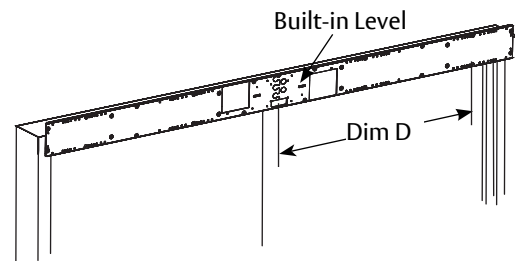

Figure 5
4. Interlock right backplate (3 “fingers”) from Box 2 with left backplate. (Figure 5)
5. Use level on right backplate to ensure proper alignment. (Figure 5)
6. Using backplate as template, mark conduit slot and Dim D mounting hole. (Figure 5)